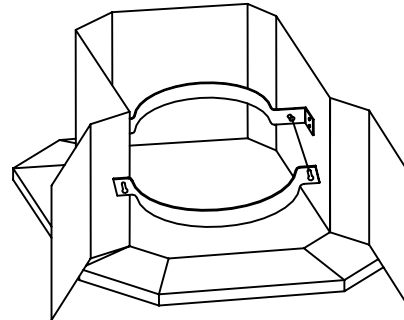

Figure 11-The fixing hoop installation
- From the outer side, use M5 x 10 screws to fasten the fixing hoop on the right and left support. Fasten the other side of the fixing hoop after the cylinder is in place. (See FIG.11)